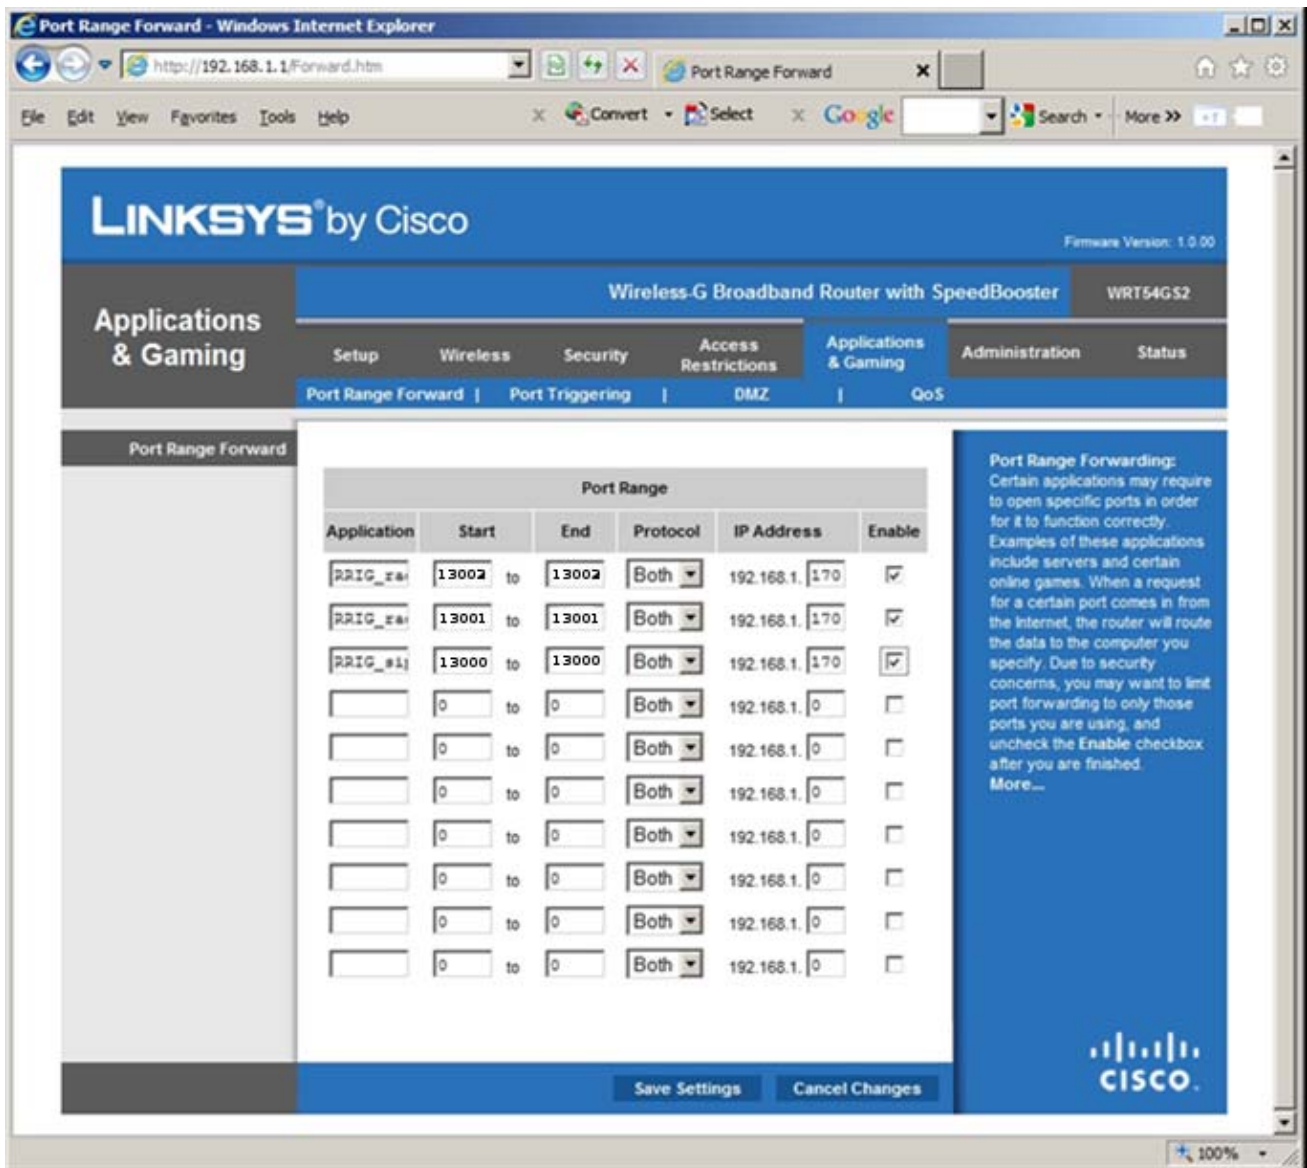

Figure 11
- Locate the port forwarding page. On the Linksys router, this is under Applications and Gaming. With other routers, likely it will be under a similar heading. Enter the following data as shown in Figure 11. Be sure to check Enable for each entry, and then click on Save Settings to save the changes.